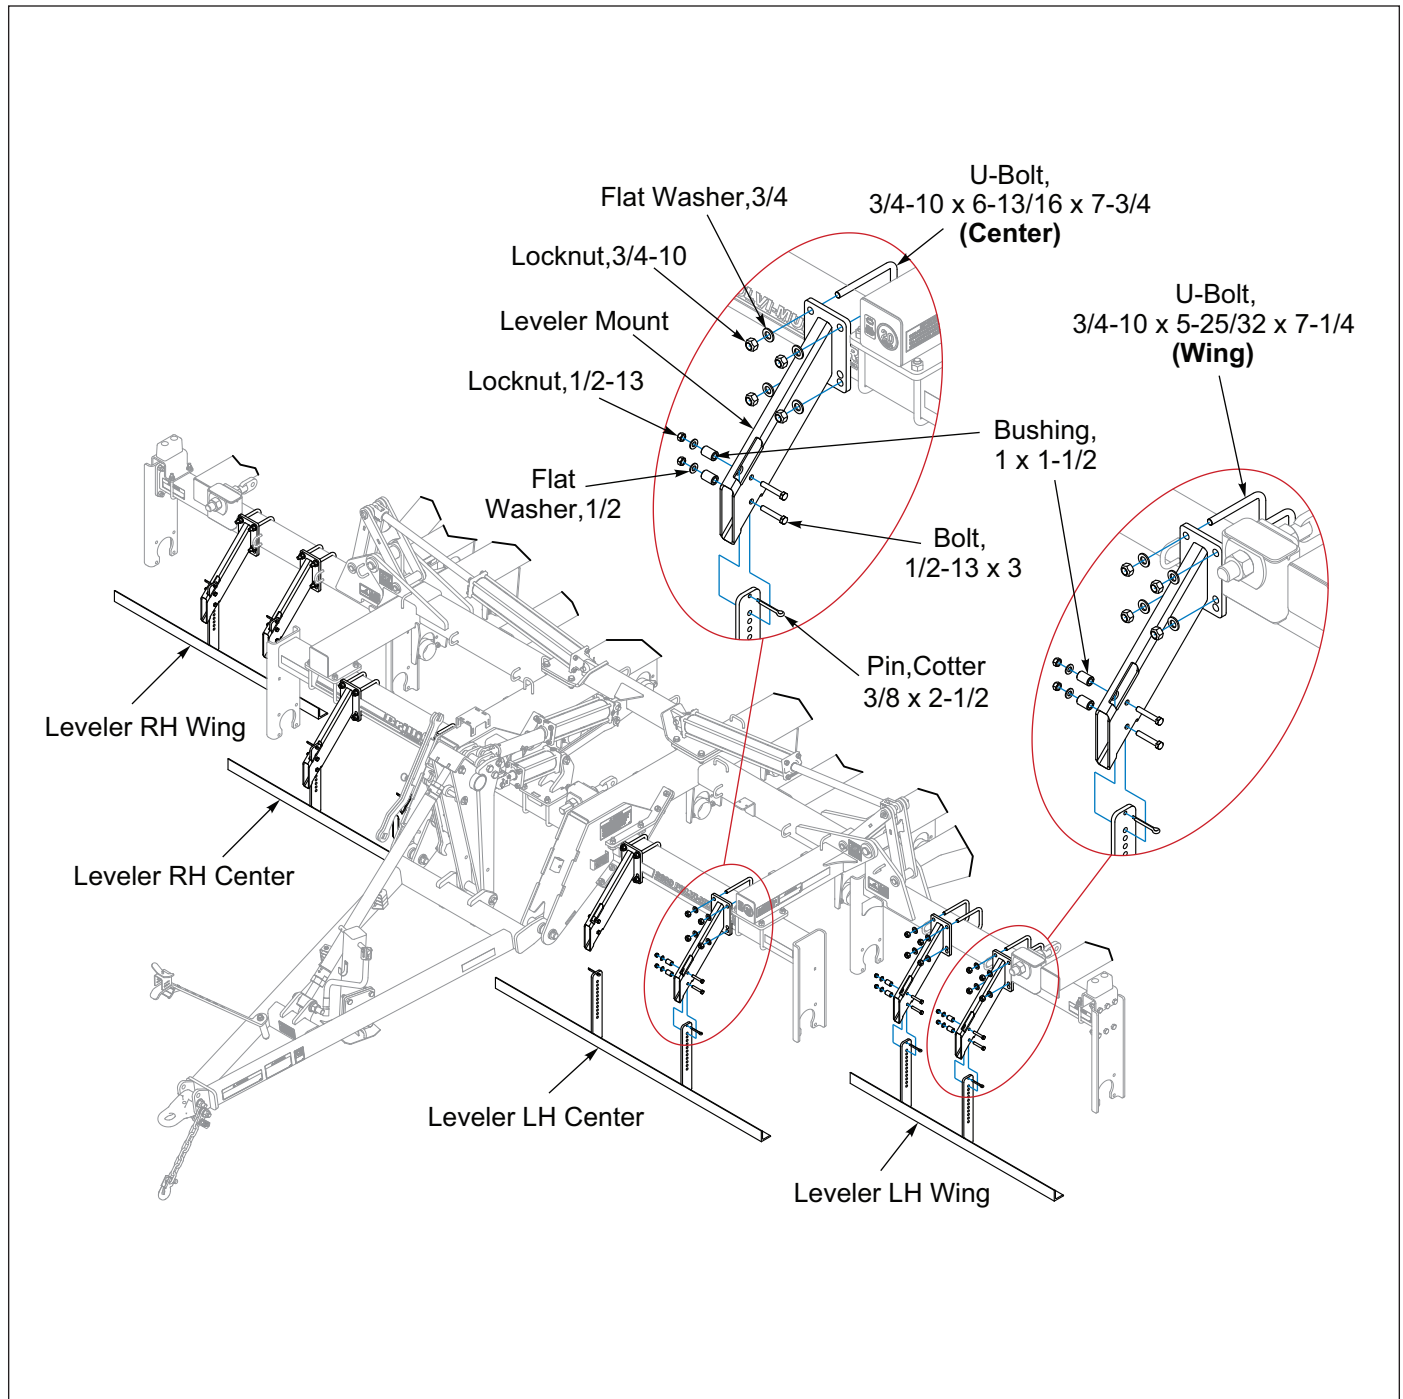

Figure 2-78: Optional Land Leveler Installation
1. Attach the Leveler Mounts to the Center Frame Front Roller Frame Tube using 3/4-10 x 6-13/16 x 7-3/4 U-Bolts and to the Front Wing Frame Tube using 3/4-10 x 5-25/32 x 7-1/4 U-Bolts. Secure with Flat Washers and Locknuts. See Figures 2-78, 2-79 and 2-81.